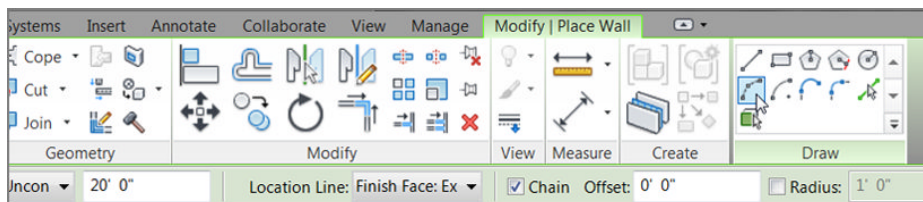

FIGURE 1.28: Just because you started the command from the view window doesn't mean you can ignore your options.
6. On the Modify | Place Wall tab, click the Start-End-Radius Arc button, as shown in Figure 1.28.